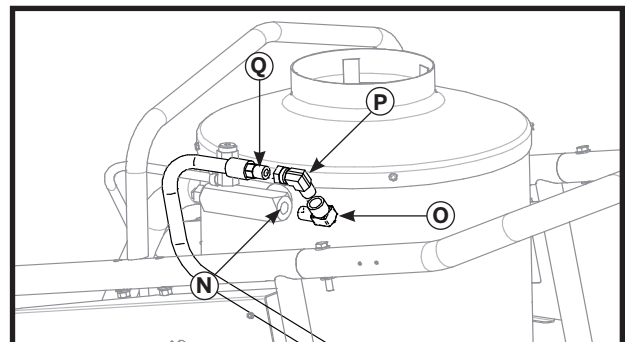

Figure 6
5. Remove the twist coupler from the machine outlet - (N on figure 6 not visible)
6. Install the male-female elbow at the machine outlet (O on figure 6)
7. Install the swivelling male-female elbow at the outlet of the previous elbow (P on figure 6)
8. Connect the short hose to that last elbow (Q on figure 6)